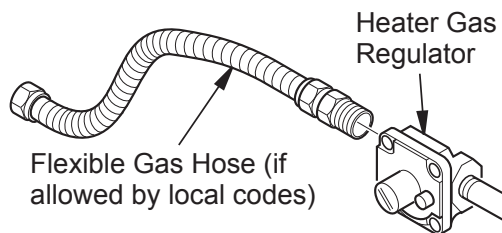

Figure 10 - Attaching Flexible Gas Hose to Heater Gas Regulator
1. Apply pipe joint sealant lightly to male threads of the 3/8 NPT side of gas fitting and connect to inlet side of gas control. Remove gas fitting from flexible gas hose (provided) before connecting to elbow (see **Figure 10**).